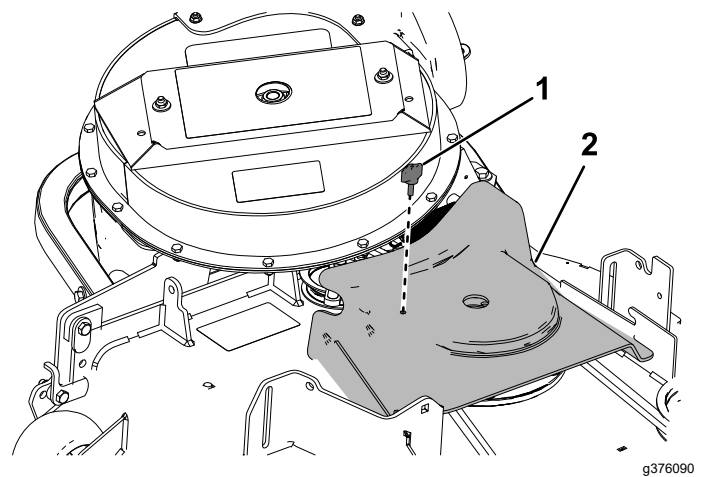

Figure 39
5. Install the blower-belt cover over the blower belt and secure the blower-belt cover with the belt knob (Figure 39).